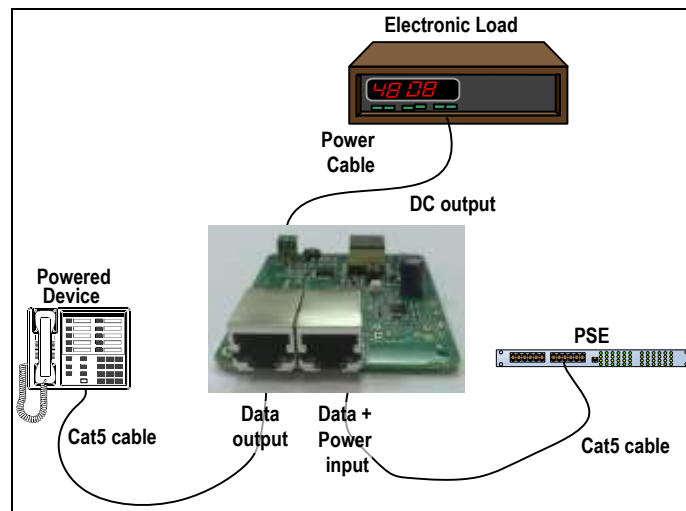

Figure 6: Test Setup
**Note:** Prior to starting any operation, it is important to verify that the Evaluation Board is setup as shown in Figure 6.